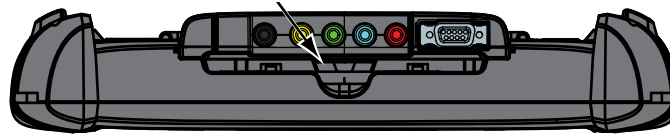

Figure 8-1 Scope Module release tab
1. Depress the Scope Module release tab located on the top of the Diagnostic Tool (Figure 8-1).